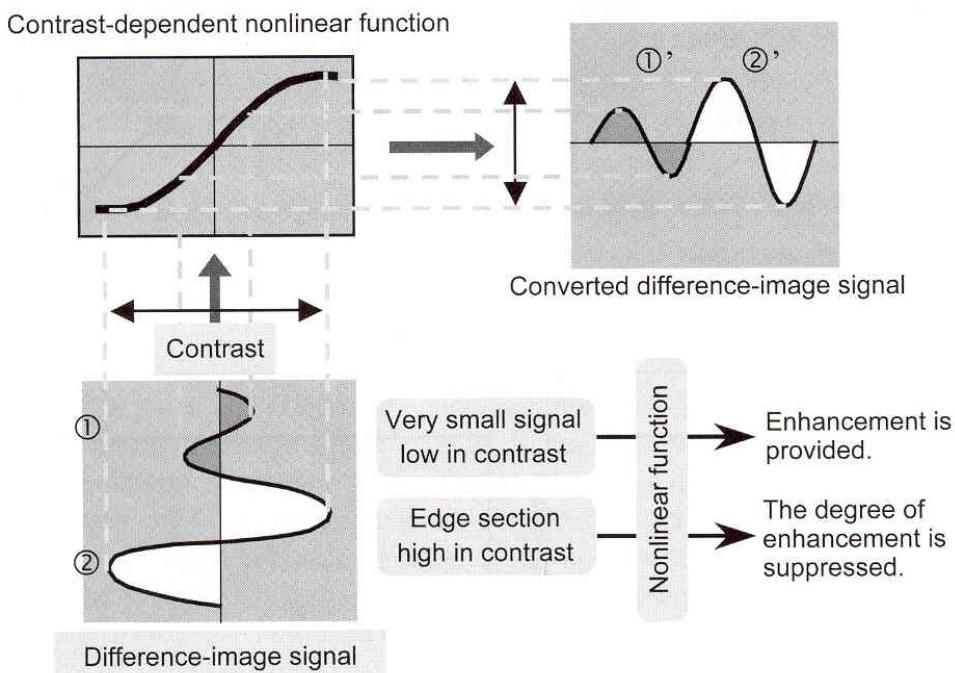

Fig. 8 Mechanism of contrast-dependent frequency enhancement
If an image containing a metal or other strong signals is enhanced by the conventional process, artifacts may be generated around the signal. The MFP suppresses such strong signals, providing the enhanced image a natural look. With reference to Fig. 8, if, for instance, a band pass signal (difference-image signal) having a relatively low contrast (as indicated by (1) in the figure) is entered in relation to the indicated nonlinear function, the resulting output signal (1)' has the same contrast as the input signal. However, if a high-contrast signal is entered (as indicated by (2), it is converted to generate an output signal having a lower contrast (2)').